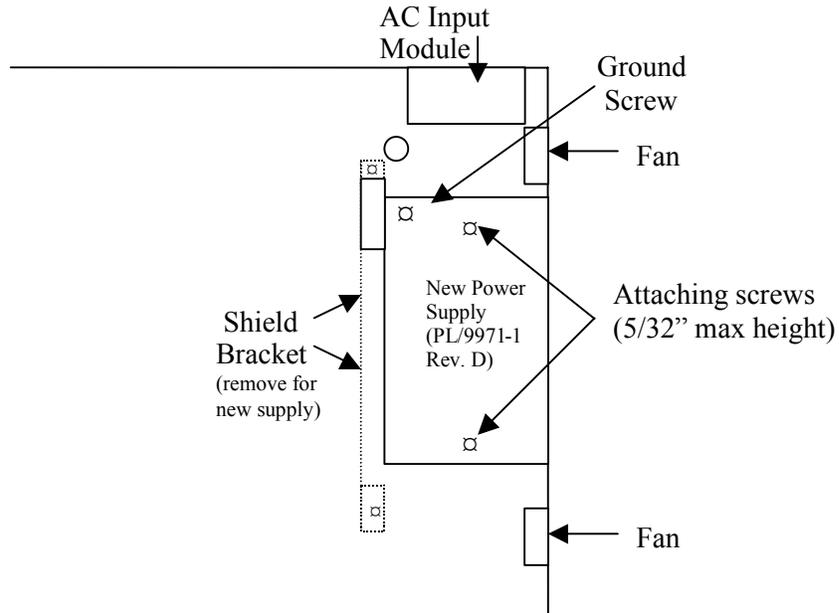

Figure 1
- 7 Connect the ground wire to the power supply by using the screw in the location near the ground spade on the power supply. See Figure 1.